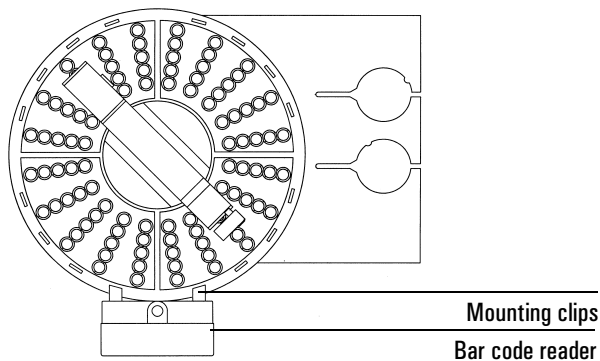

Figure 5 Mounting location for the Bar Code Reader
2. Mount the Bar Code Reader onto the front of the tray base by inserting the two mounting clips on the Bar Code Reader into the mounting slots on the edge of the tray base. See Figure 5.